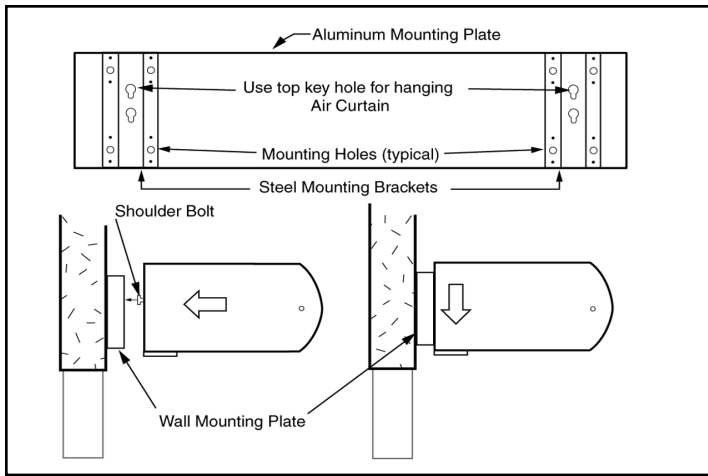

FIGURE 4 - Installing Air Door on Wall Mounting Plate
- I. There are two sets of keyhole slots on the wall mounting plate. In low overhead installations, the air curtain may be staged in the lower keyholes to provide clearance for electrical wiring and then moved to the higher key holes after completion. Raise the air curtain with the discharge opening facing down toward the floor. While holding the air curtain level, slide the heads of the shoulder bolts into the larger hole of the keyhole slots of the mounting plate. Lower the air curtain into place, keeping both ends level, allowing it to rest flush with the mounting plate. See Figure 4.